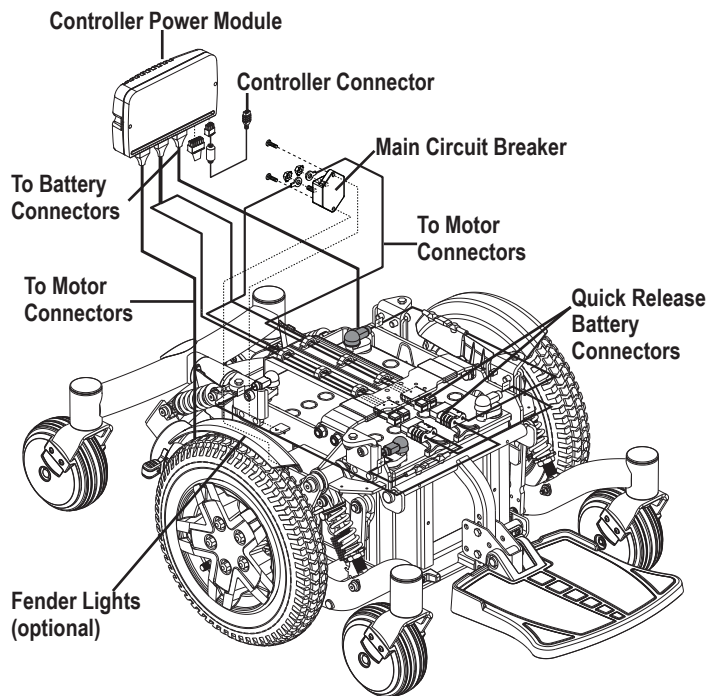

Figure 1. Electrical Components
Your power chair has two main assemblies: the seat assembly and the power base assembly. Typically, the seat assembly includes the armrests, seatback, and seat base. The power base assembly includes two motor/brake assemblies, two drive wheels, four caster wheels, two batteries, and wiring harnesses. **See Q6 Edge Series (page 4) and figure 1.**
The electrical components consist of the controller assembly, the batteries, and the motors. The batteries, motors, and controller power module (if equipped) are located on the power base assembly. The controller is located on the seat assembly. Connectivity between the controller and the motors, batteries, and the battery charger is provided by one or more wiring harnesses. **See figure 1.**
5. Plug the controller connector into the rear of the power base. See **figure 1**.